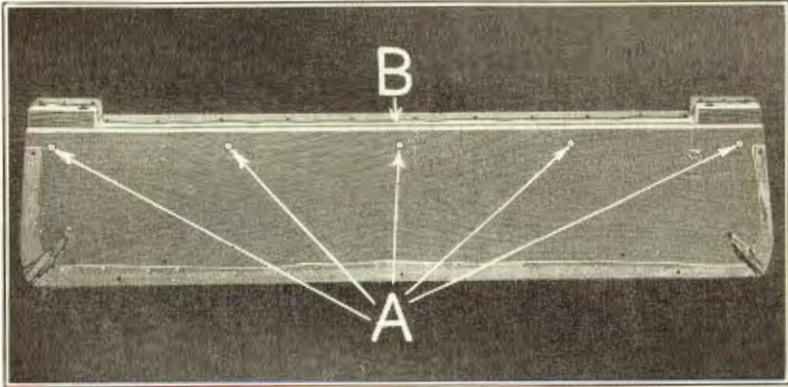

Fig. 572
1269 Place spacer board on a flat surface with the bottom side up and run out the five wood screws (see "A" Fig. 572) which hold spacer block to board. Spacer block "B" can then be removed.
- 1274** Assemble spacer board block to spacer board by running in the five wood screws (see "A" Fig. 572) which hold block to board.